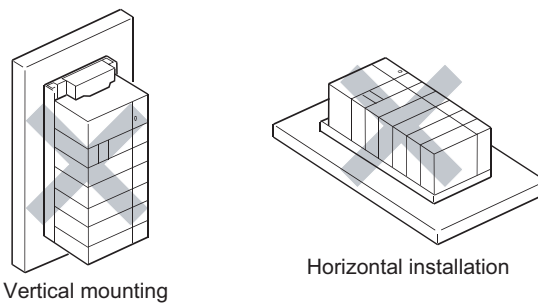

Figure 10.21 Orientation in which modules cannot be mounted
- Do not mount it in either of the orientations shown in Figure 10.21.